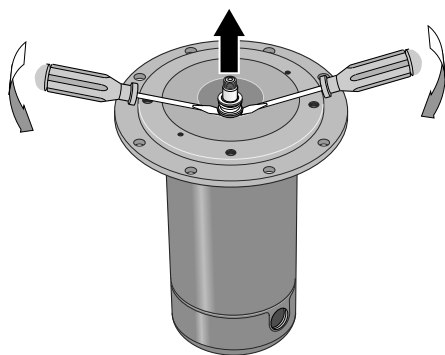

Figure 20 – Remove Seal plate
- Step 3. Remove rotating half of seal by placing two screwdrivers under seal ring and **carefully** prying up (Figure 20).